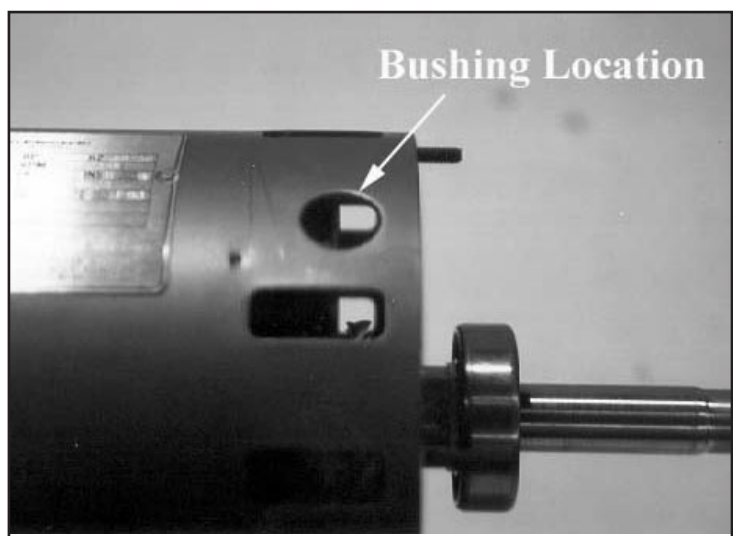

Figure X-17 Bushing installation
J. Install bushing (part# C2-113) into the round hole located on the top side of the motor casing. (Fig. X-17)